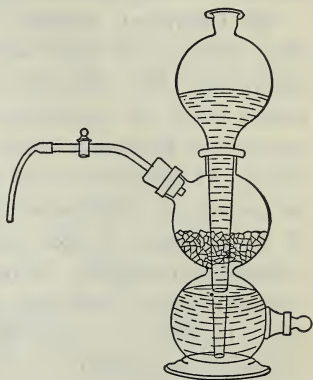

Fig. 41. Kipp hydrogen generator.
67. When hydrogen is needed frequently in small quantities, the *Kipp generator*, shown in Figure 41, is convenient. The zinc is placed in the middle bulb, and hydrochloric acid, diluted with an equal volume of water, is poured in at the top. When the acid reaches the zinc, interaction begins and hydrogen escapes. When the gas is no longer needed, the glass stopcock